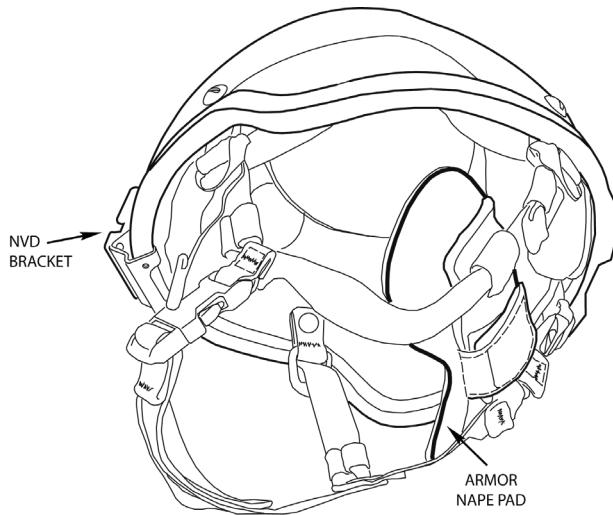

Figure 6. Ballistic Nape Pad Installed on H-Back Retention System.
10. Position the Ballistic Nape Pad so there is about one inch of space between it and the trapezoidal pad. Figure 6 shows the completed installation.